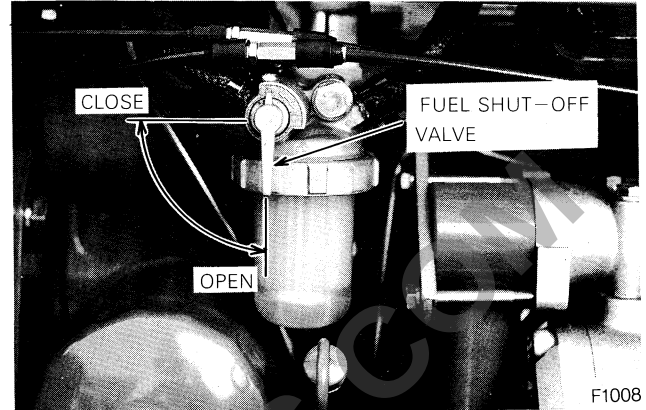

Figure 38 – Fuel Fitter
1. Be sure there is adequate fuel in the fuel tank, close the fuel shut-off valve, then remove the fuel sediment bowl, Figure 38.
2. Remove the sediment bowl, Figure 38.